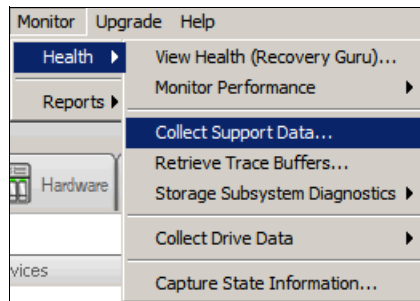

Figure 13-9 Open the Collect All Support Data window from the Monitor menu
- ▶ Click **Monitor** → **Health** → **Collect Support Data**, as shown in Figure 13-9, to open the Collect All Support Data window.